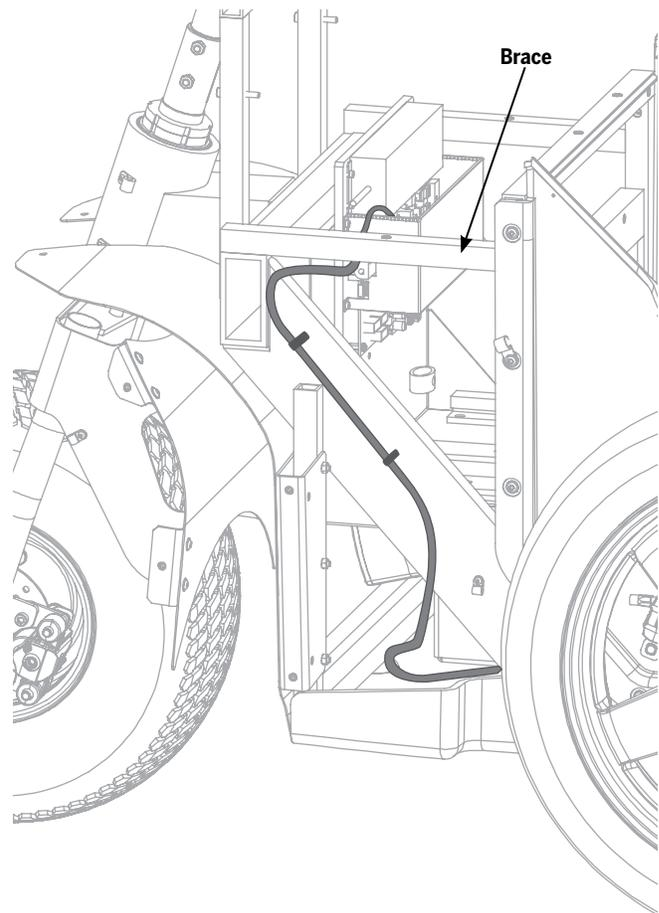

Figure 158: Drive Harness Routing
5. Feed the harness under the horizontal brace on the frame (see **Figure 158**) and connect it to the PI Board.